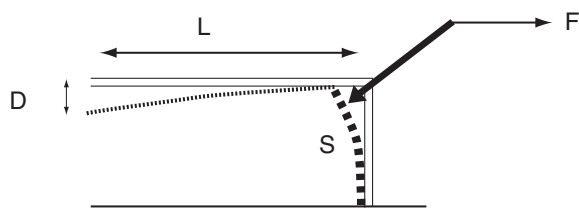

Fig. 1
5. Spend a few minutes to plan how you will carry out the investigation. Refer to Fig. 1 below. Measurements and observations to be made include: